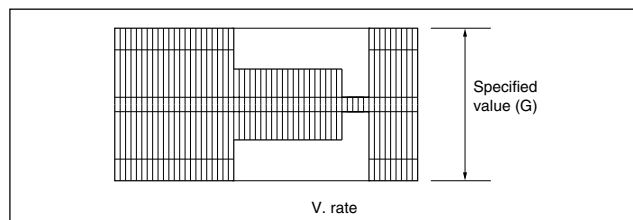

Fig. 3-3-3b REC color (colour) level
- (1) Connect the adjustment tool (H2) to the measuring point (D1).
- (2) Apply the external trigger signal to D.FF (E) to observe the PB color (colour) waveform at the measuring point (D2).
- (3) Play back the signal (A3) in the mode (B1) of the alignment tape (A1).
- (4) Set the VCR to the manual tracking mode.
- (5) Adjust tracking so that the PB color (colour) waveform becomes maximum. Make a note of the higher PB color (colour) level as "B" at this time.
- (6) Record the signal (A3) in the mode (B1), and play back the recorded signal.
- (7) Set the VCR to the EVR mode by transmitting the code (F1) from the Jig RCU.
- (8) Set the EVR address to (F2) by transmitting the code (F3) from the Jig RCU.
- (9) Transmit the code (F4) from the Jig RCU to adjust so that the higher level channel becomes the specified value (G) of the note "B" level as shown in Fig. 3-3-3b. (Adjust before recording, then confirm it by playing back.)
- (10) After adjustment, record the signal (A3) then playing it back again. At this time, confirm that there is no inverting phenomenon or noise appearing on the playback screen.
- (11) Release the EVR mode of the VCR by transmitting the code (F1) from the Jig RCU again. (When the EVR mode is released, the adjusted data is memorized.)
- (12) Repeat steps (3) to (11) in the mode (B2).